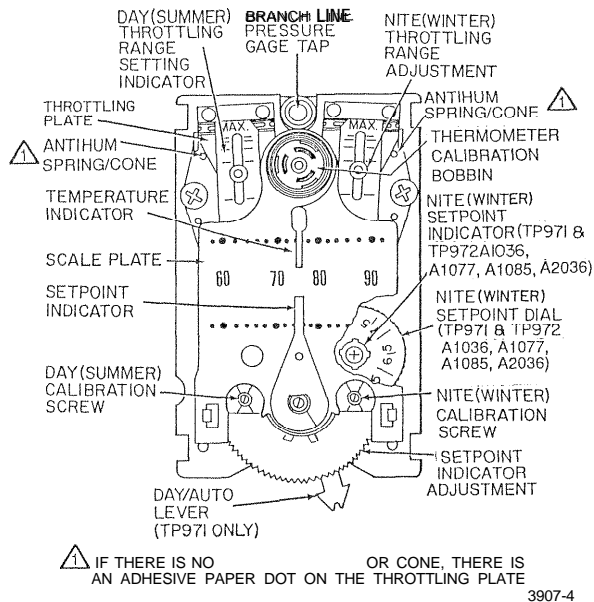

Fig. 19. Thermostat front view with cover off showing controls and indicators.
2. The antihum spring (Fig. 19) must be free. Be sure the spring just touches the throttling plate and is not wedged against it (does not apply to all TP970C and D or any TP970 series starting with 2000, i.e., TP972A2-i 43).
5. To check calibration or to recalibrate the TP978 ZEB Thermostats, measure actual room temperature with a test thermometer. The 75F (246) limit is nonadjustable.
- 2 If the difference is more than 1 degree F (0.56 degree C), use the Thermometer Calibration Tool or hex wrench to turn the Thermostat thermometer calibration bobbin (Fig. 19) until the Thermostat thermometer reading is correct.
- 2 Turn the calibration screw (Fig. 19) until the Pressure Gage reads 0 psi (0 kPa).
- ① With 13 psi (90 kPa) main line pressure, turn the DAY (SUMMER) (left) calibration screw (Fig. 19) until the Pressure Gage reads 0 psi (0 kPa).
- ② Turn the calibration screw in the opposite direction until the Pressure Gage reads 8 ± 1 psi (55 ± 7 kPa).
- ③ TP971A, B, D, AND E ONLY: With 18 psi (124 kPa) main line pressure, rotate the NITE (WINTER) setpoint dial until the setting agrees with the indicated temperature.
- ④ With 18 psi (124 kPa) main line pressure, repeat Steps 1 and 2 using the NITE (WINTER) (right) calibration screw (Fig. 19).
- ⑤ Remove the Pressure Gage and Gage Adapter.
- ⑥ Proceed to SWITCHOVER CALIBRATION PROCEDURE.